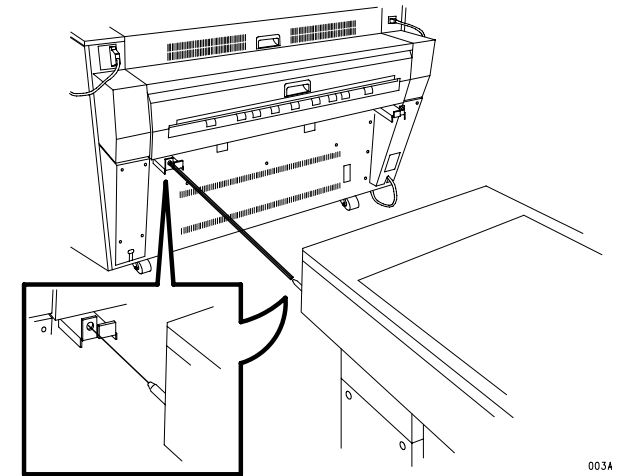

Figure 3 Connecting the Stacker to the 721P.
4. (Figure 3) Move the Stacker into position behind the 721P. Ensure the locating pins on the Stacker are centered in the Stop Bracket holes.